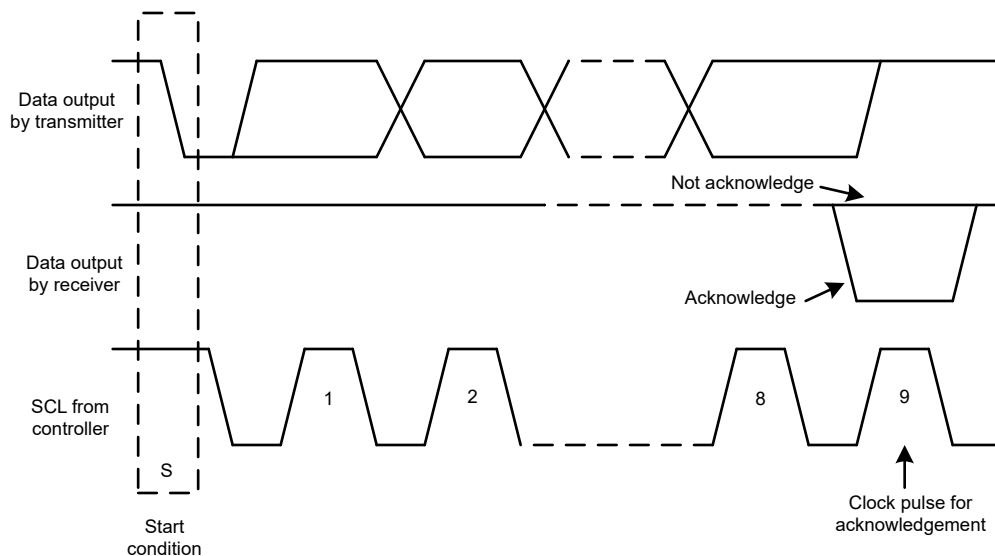
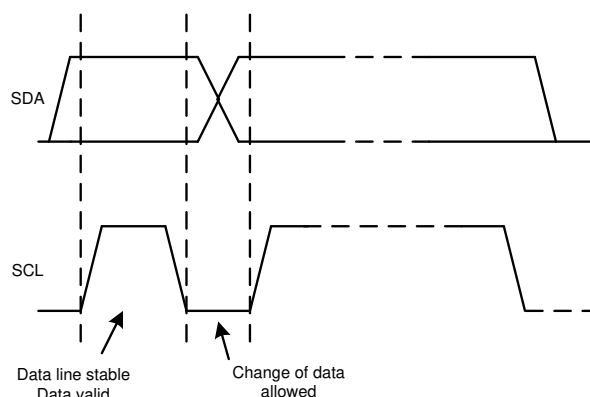

Figure 7-15. Acknowledge and Not Acknowledge on the I²C Bus
Figure 7-17. Bit Transfer on the I²C Bus
Other than specific timing signals, the I²C interface works with serial bytes. At the end of each byte, a ninth clock cycle generates and detects an acknowledge signal. An acknowledge is when the SDA line is pulled low during the high period of the ninth clock cycle. A not-acknowledge is when the SDA line is left high during the high period of the ninth clock cycle, as shown in Figure 7-15.
2. The controller then generates the SCL pulses, and transmits the 7-bit address and the read/write direction bit ($R/\overline{W}$) on the SDA line. During all transmissions, the controller makes sure that data are valid. A valid data condition requires the SDA line to be stable during the entire high period of the clock pulse, as shown in Figure 7-17. All devices recognize the address sent by the controller and compare the address to the respective internal fixed address. Only the target device with a matching address generates an acknowledge by pulling the SDA line low during the entire high period of the 9th SCL cycle, as shown in Figure 7-15. When the controller detects this acknowledge, the communication link with a target has been established.